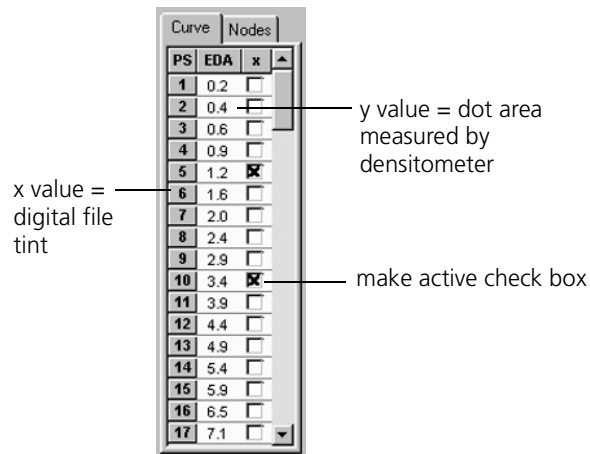

Figure 11: Node sidebar
- Select the make active check box in the node sidebar. See Figure 11 on page 33 for an illustration of the node sidebar.
- Clear the make active check box in the node sidebar. See Figure 11 on page 33 for an illustration of the node sidebar.